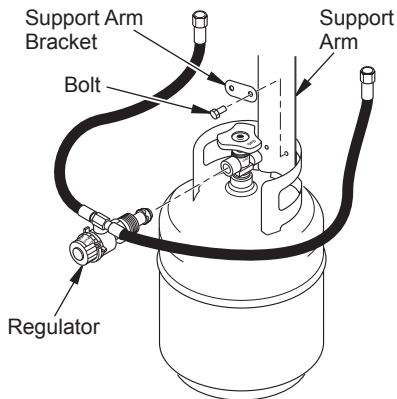

Figure 5 - Attaching Support Arm and Regulator to Propane/LP Tank
5. **2 Burner Models Only** Attach the heater to the guard on the propane/LP cylinder with the support arm on the inside of the guard and bolts through two holes in the guard (see Figure 5). Tighten the support arm bracket into place using the wing nuts provided.